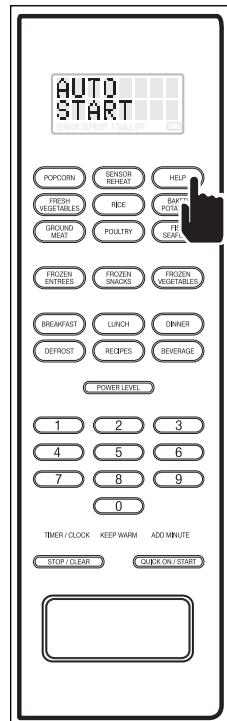

Figure 3-49.
1. Press the HELP key and five help features will flash on the display, the third one will read "AUTO START - PRESS 3" (See Figure 3-49).